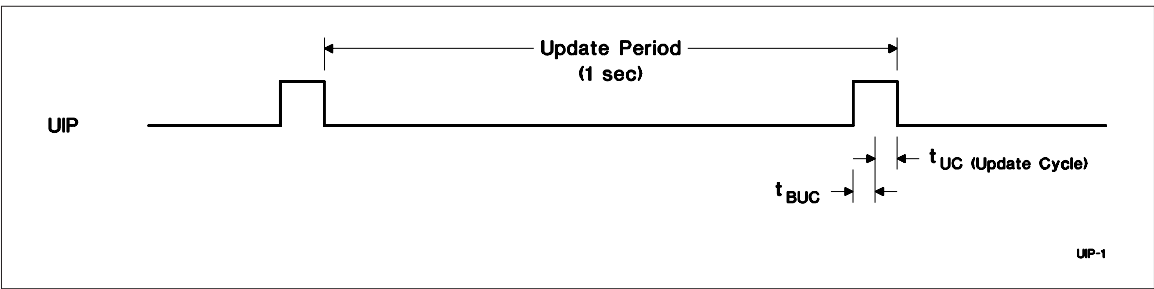

Figure 2. Update Period Timing and UIP
dar locations during the update cycle at the end of each update period (see Figure 2). The alarm flag bit may also be set during the update cycle.
The update-in-progress bit (UIP) in register A is set  $t_{BUC}$  time before the beginning of an update cycle (see Figure 2). This bit is cleared and the update-complete flag (UF) is set at the end of the update cycle.